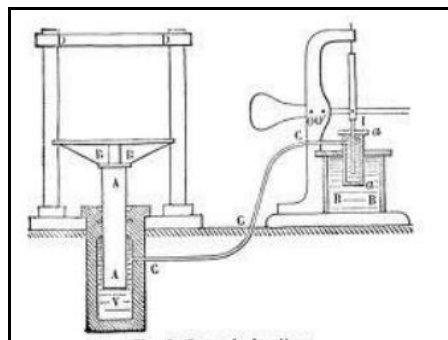

Figure 14.1. Hydraulic press
- Release injection pressure as seen in Figure 14.1